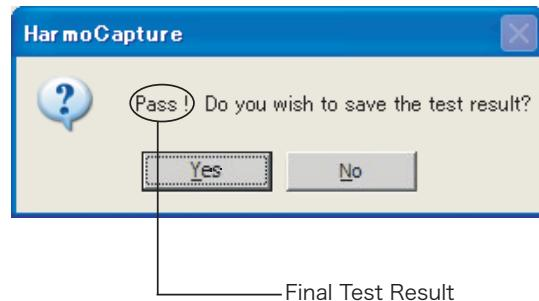

Fig.3-9 Display example of pass result
- When the test is completed, the message “Do you wish to save the test result?” shown in Fig.3-9 is displayed. Click the **Yes** button.